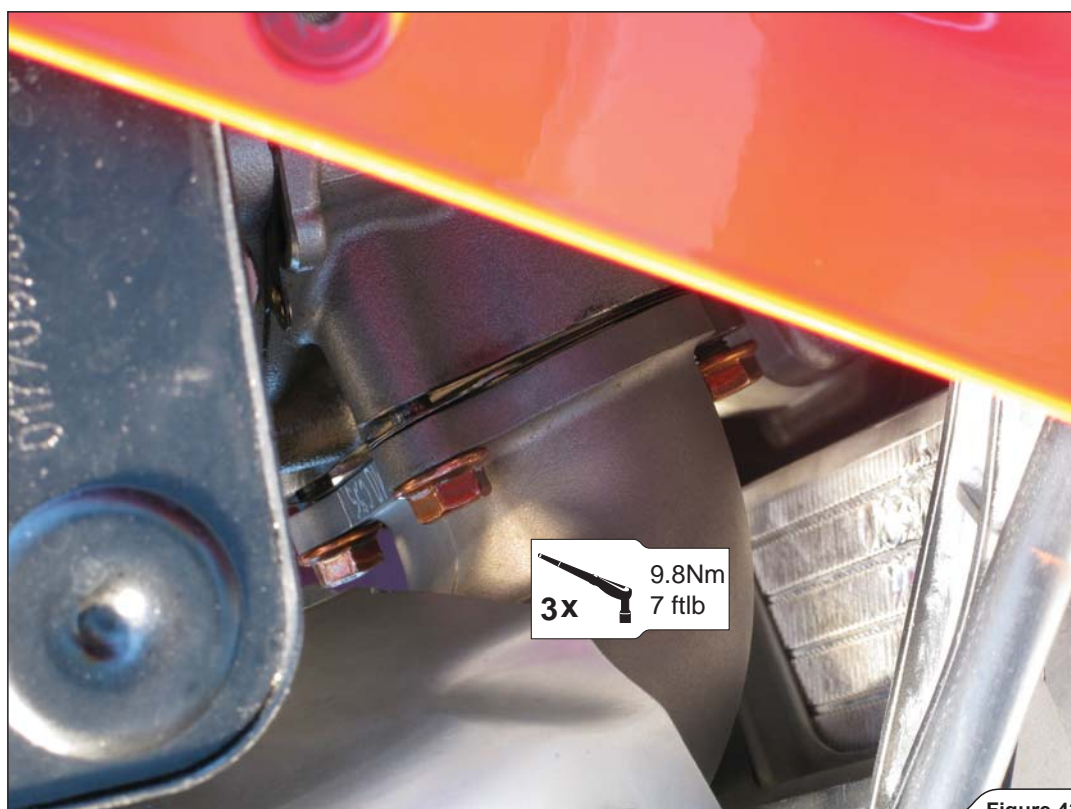

Figure 42
14. Tighten the front header to the specified torque (Figure 42).